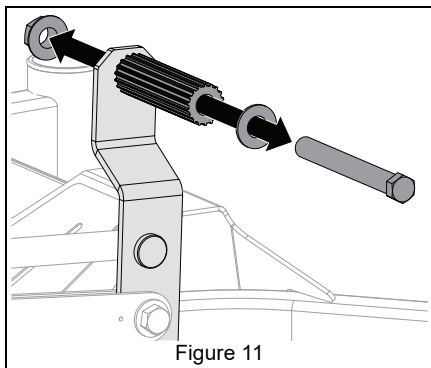

Figure 11
18. Remove hardware securing deck lift pedal to unit and remove pedal. Retain for reinstallation. See Figure 11.